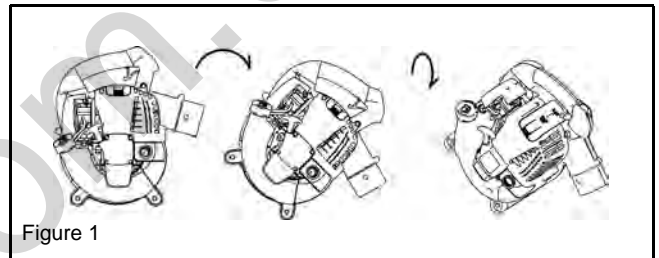
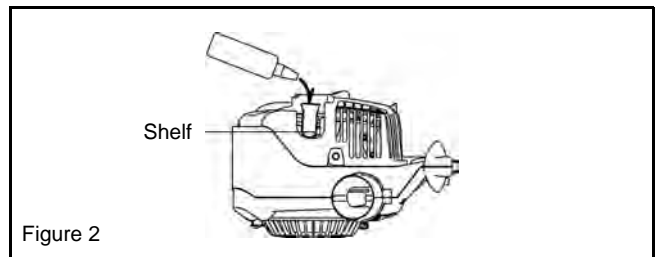

Figure 1
Figure 2
- (1) Confirm that the tank cap is tightened securely.
- (2) Detach the oil cap.
- (3) Tilt the machine in order as shown in Figure 1.
- (4) Orient the machine as shown in Figure 2 and refill oil to the shelf inside the oil pipe.
- (5) After refill, securely tighten the oil gauge. Insufficient tightening of the oil gauge will lead to oil leakage.
When opening the cover, apply fingers to the main handle and plug cover projection (Figure 1). Push up the projection and slide the cover in the "OPEN" direction (Figure 2). When closing the cover, slide the cover in the "CLOSE" direction till the click under the plug cover projection rides over the engine cover. Finally, push in the projection.